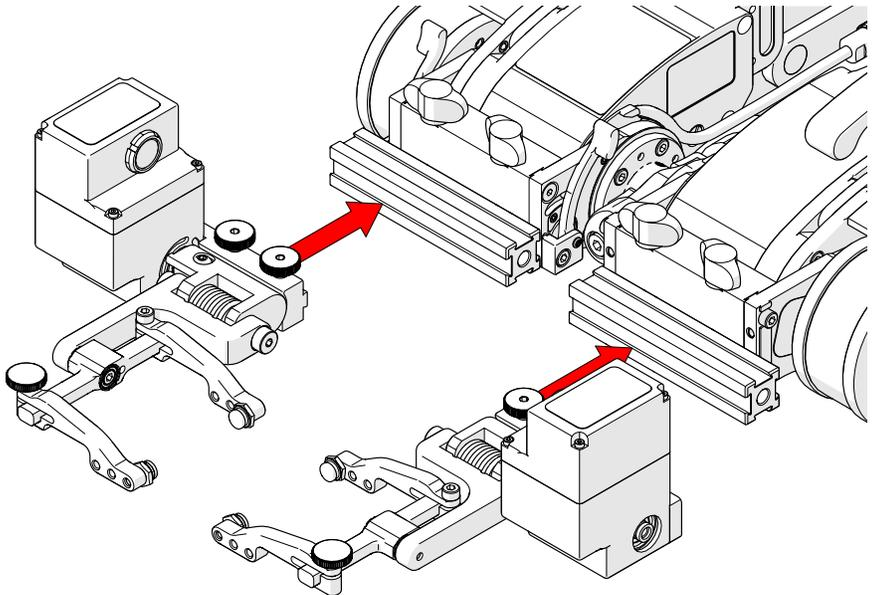

Fig. 29 - Attach actuated probe lifts
10. Attach the actuated probe lifts to the frame bars and tighten the probe holder adjustment knobs (Fig. 29).